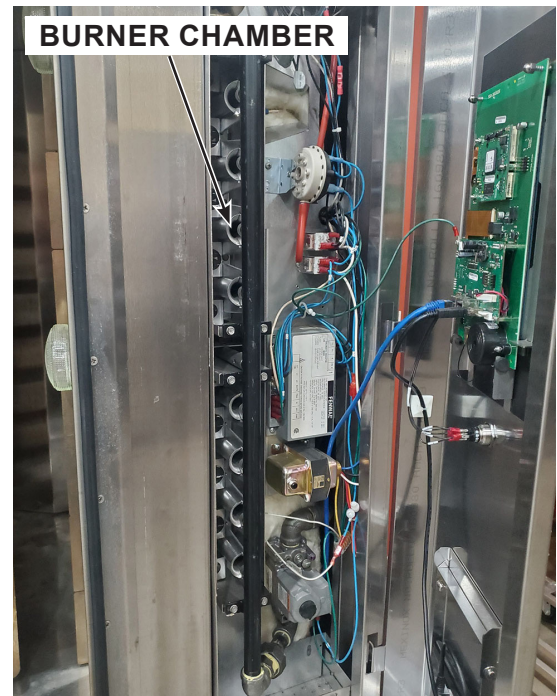

Fig. 51
1. Clean the burner chamber (Fig. 51) area of dust and/or lint accumulation.